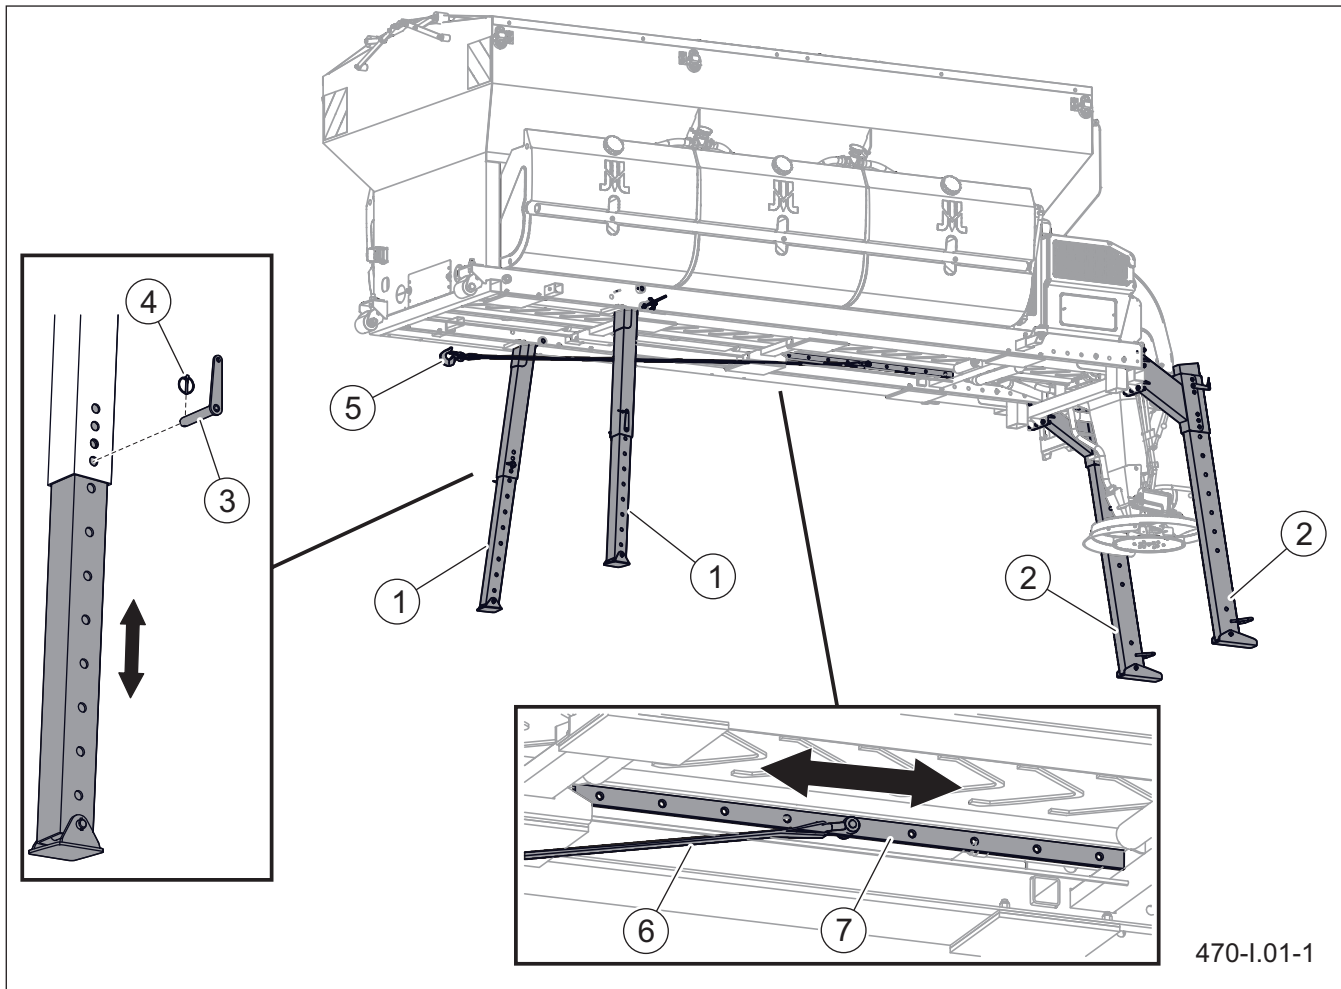

Figure 5.1 Parking supports
The spreader is equipped with parking stands (figure 5.1). The height of parking stands should be adapted to the height of the carrier vehicle's load box. Lock the parking stands in their positions using pins (3) and secure with cotter pins (4).
Set the fixing point and attach the belt sling (6) ended with a hook (5) to a fixed and sufficiently strong element of the carrier vehicle (e.g. rear hitch) in order to prevent the machine from sliding off the platform (figure 5.1).